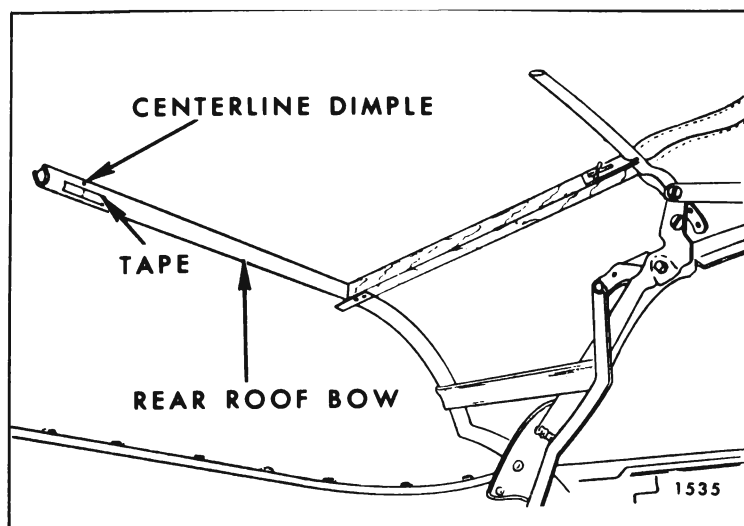

Fig. 6-40—Marking Rear Roof Bow
5. Along forward surface of rear roof bow install a 1" piece of tape at centerline dimple of rear roof bow. Using a pencil, mark centerline of rear bow on tape (Fig. 6-40).
NOTE: The deck seam mark will vary slightly ($\pm 1/4$ ") depending upon position of rear roof bow. Also check centerline mark on inner lining of top material. Mark should correspond to centerline mark on rear roof bow. (Fig. 6-40).